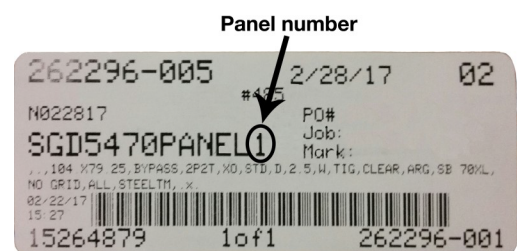

Figure 20
14. Locate the shipping label on all panels and identify the panel number (Figure 20).